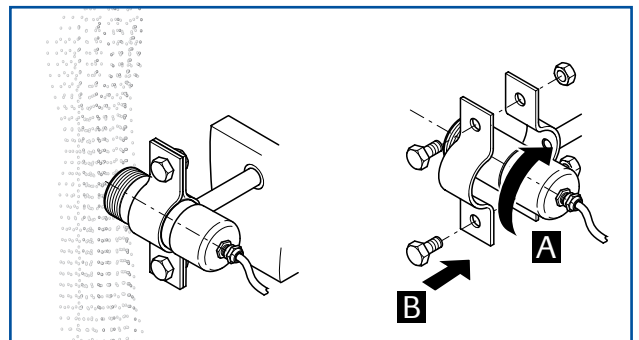

Fig. 4: Mounting with pipe clamp
- with the help of a pipe clamp (fig. 4)